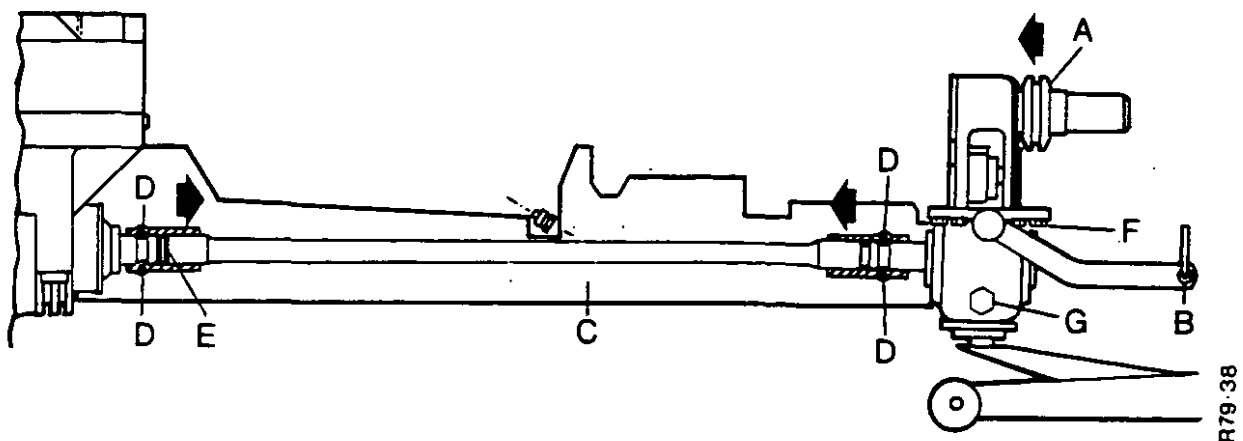

FIGURE 28 TRANSFER GEARBOX REMOVAL AND INSTALLATION
4. To disconnect the drive shaft from the axle, first remove the guard C, Figure 28. Remove the four nuts and bolts D from the drive shaft couplings. Hold the shaft and slide the couplings towards the centre of the shaft.